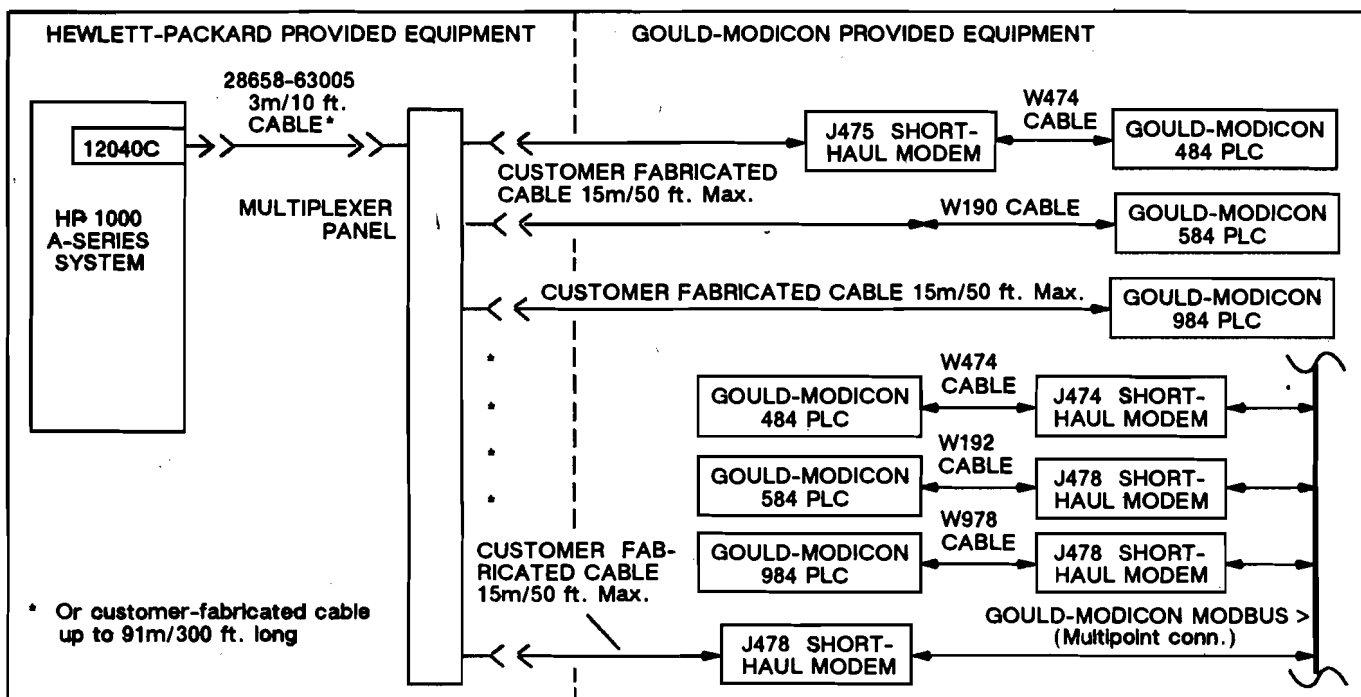

Figure 2-5. Connection of Gould-Modicon PLCs to HP 1000 A-Series Systems
**Gould-Modicon:** 484, 584, and 984 PLCs connected as shown in Figure 2-5 when the HP 94203A Gould-Modicon PLC Device Handler is configured with the HP 94200B PCIF/1000 Configurator/Monitor.